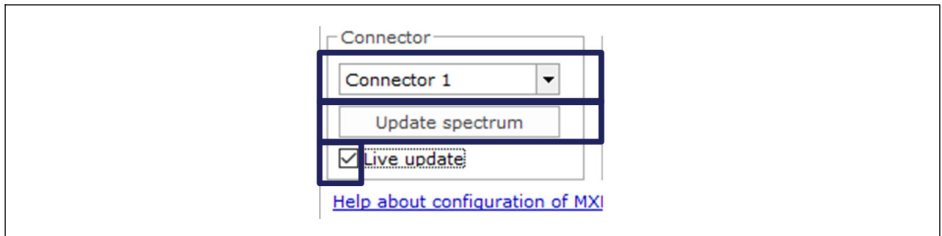

Fig. 4.8 Update Spectrum
- Change the selected connector on the connector box (Fig. 4.8).
- To update the optical spectrum press the **Update spectrum** button (Fig. 4.8).
- For a continuous update check the **Live update** tick (Fig. 4.8).